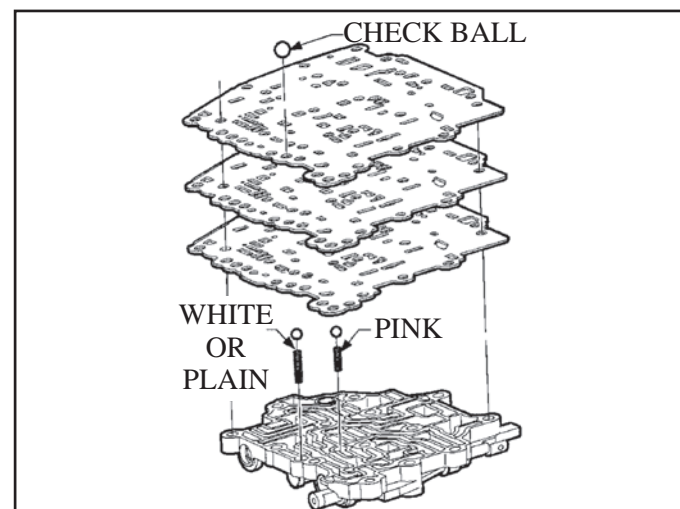

Figure 174
**IMPORTANT:** Care must be taken when removing this last bolt as the two valve body halves will separate making it possible to loose the three check balls located in the valve body (See Figure 174).